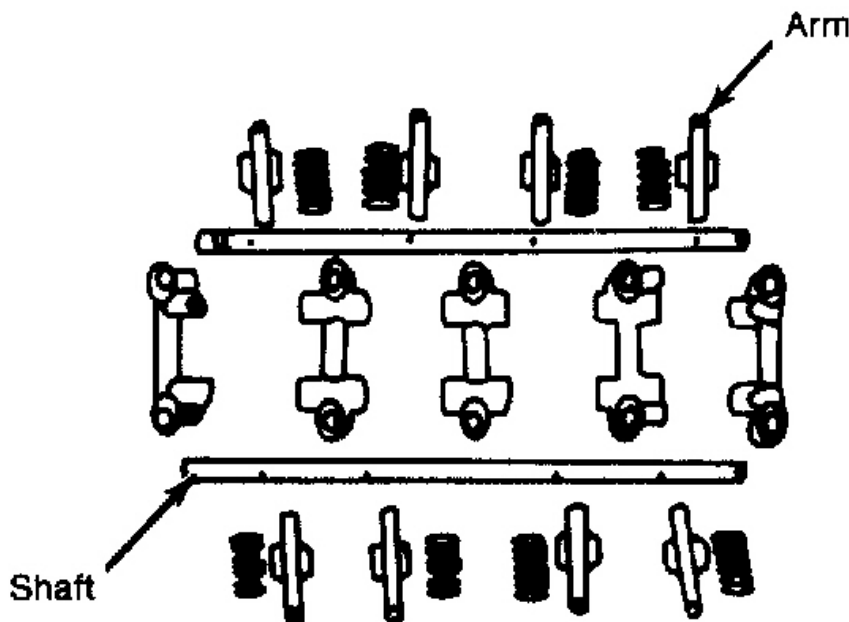

Fig. 4: Disassembled View Of Rocker Arm Assembly**VALVE TIMING**
2. If clearance exceeds maximum limit, replace rocker arms and/or shafts. Reassemble in reverse of disassembly, noting that all rocker arms are identical, but that all rocker stands are different. See **Fig. 4**.